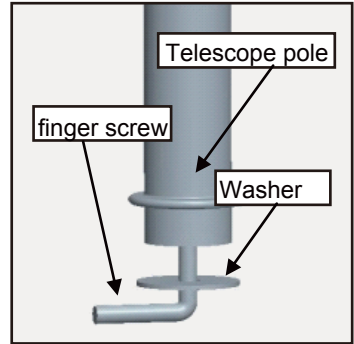

Figure 1.
1. Loosen the **7 Finger Screw** and **Washer** counter-clockwise from the bottom of **Telescope Pole**. *Figure 1.*